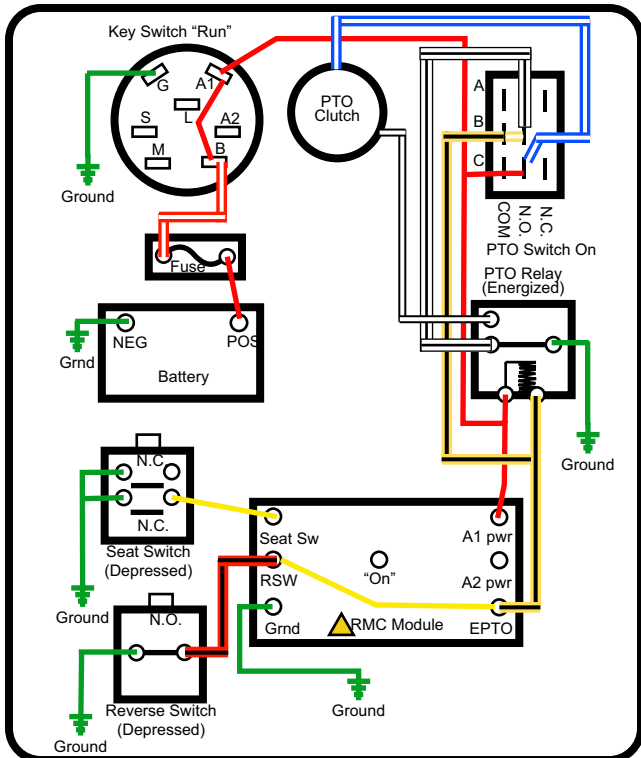

Figure 7.35
3. Once the PTO relay is energized by a ground path through one of the safety switches, it latches. See Figure 7.35.